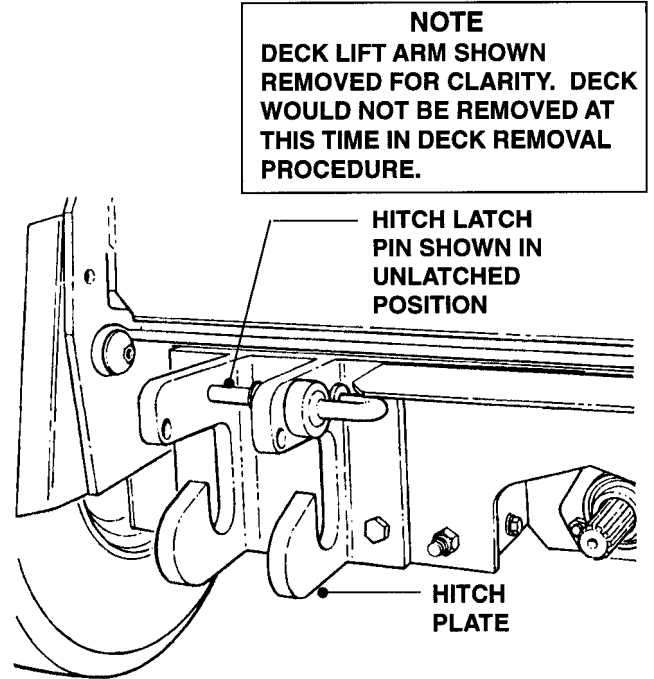

FIGURE 8.15
- D. Rotate spring-loaded Hitch Latch Pins (located on both Hitch Plates) to the unlatched position. See Figure 8.15.
- E. Move Deck Lift Switch as if to lower Deck and the Lift Arm will move up in the Hitch Plates. The Lift Arm needs to be high enough to clear the Hitch Plates when Power Unit is driven backward away from Mower Deck. Refer to Figure 8.15.